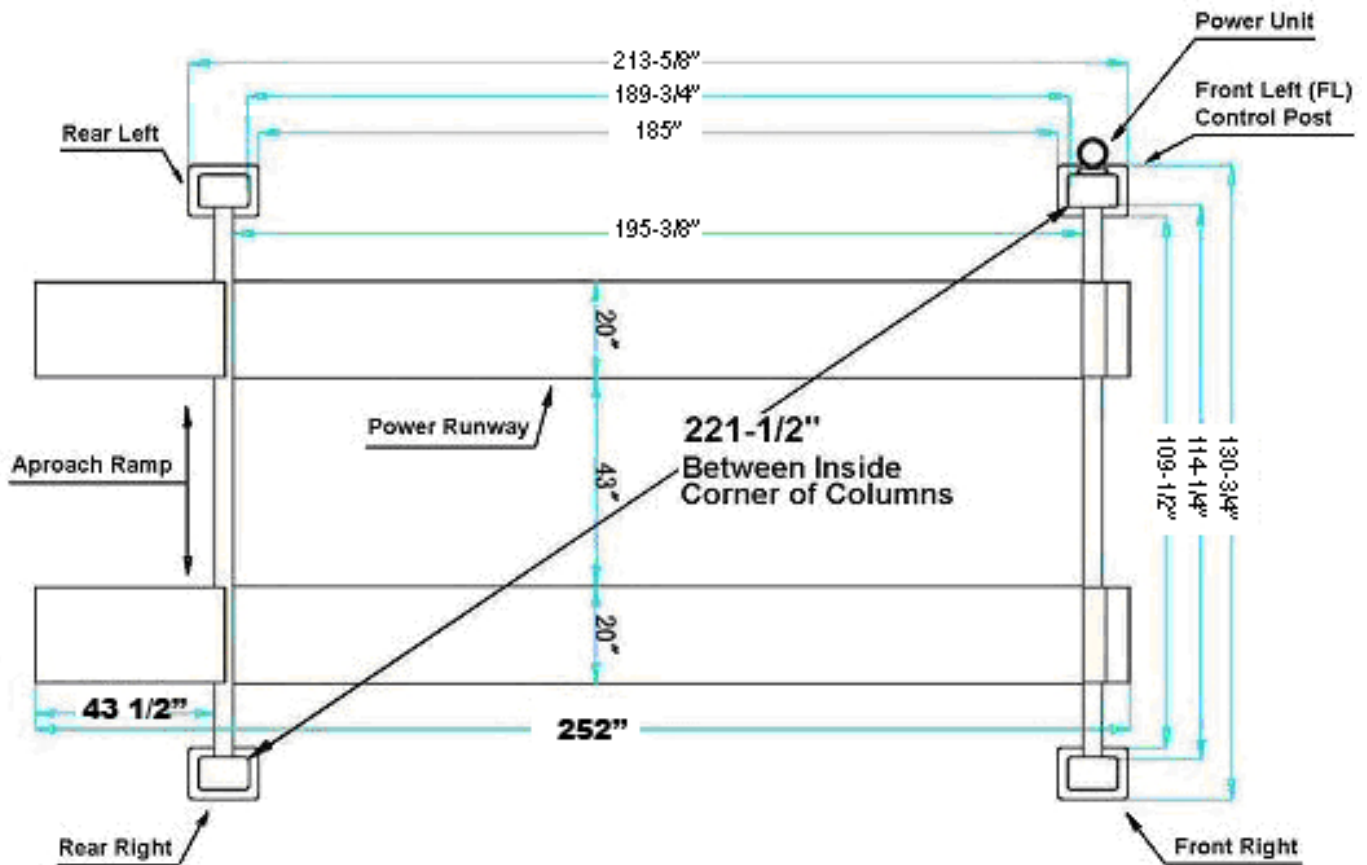
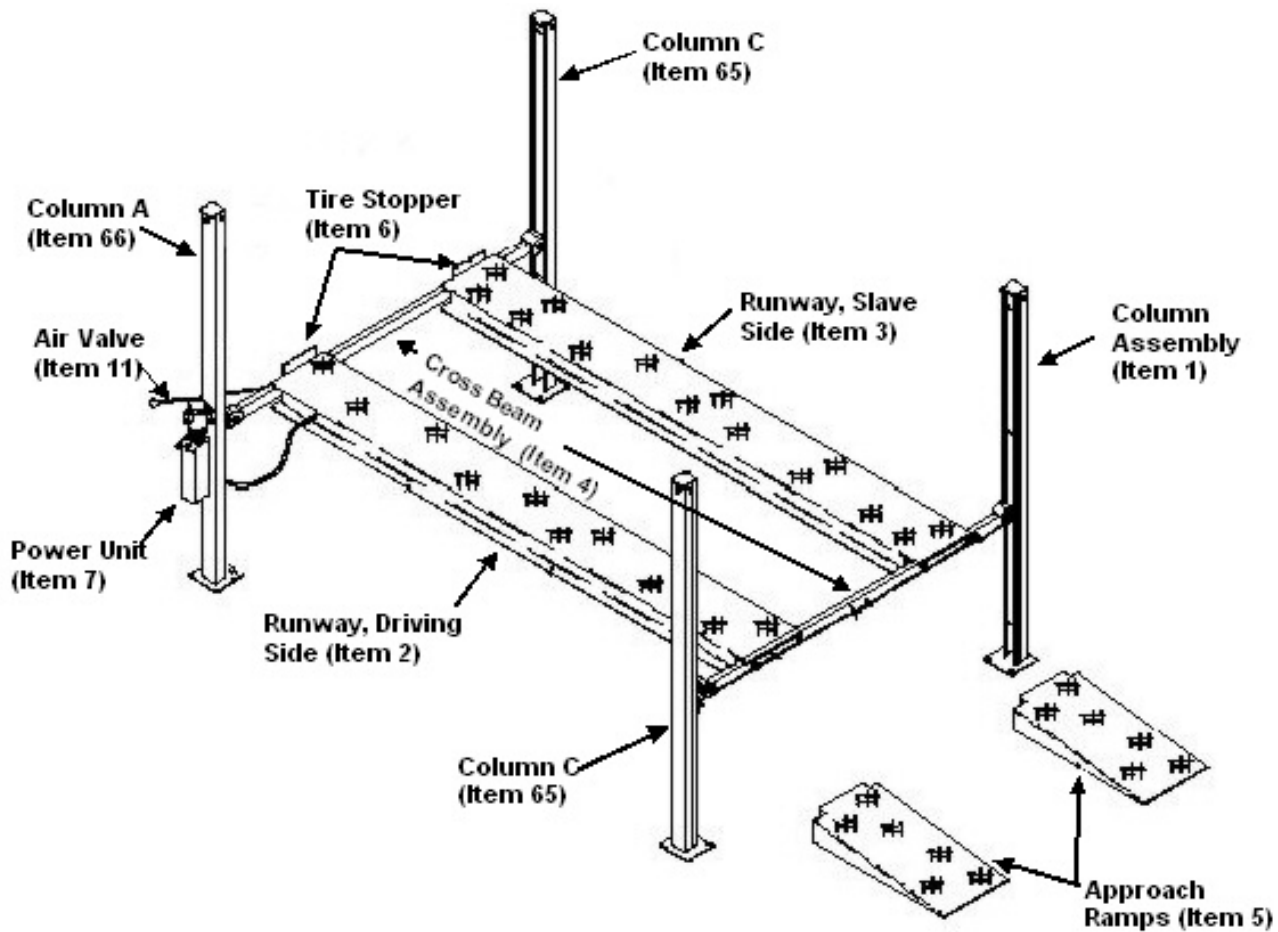

Figure 2-2. Setup Dimensions
Figure 2-3. Major Components
The lift requires the space as shown in figure 2-1. The major components of the lift are shown in figure 2-3 for familiarity. Select the spot on your foundation where the Front Left Control Post is to be located and plan from there.
3. Place runways in predetermined location. The control post (Column A – figure 2-3, item 66 in parts list) and power unit will be located on the front left as shown on figure 2-2. The power runway (Runway, Drivers Side (item 2 in parts list) will also be on the left side. The control post is located in the front left corner. At this time, there are no other configurations available for this lift.
1. Refer to figure 2-3 and position the three remaining posts in proper corners with cable mounting holes closest to center of lift. The column locations, and item/part numbers/descriptions from the parts listing are as follows: